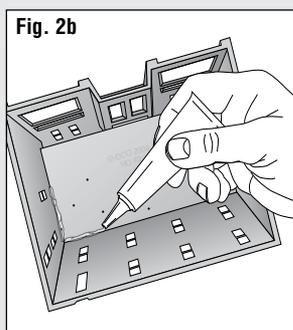

Fig. 2b
- Glue in place. (**Fig. 2b**)